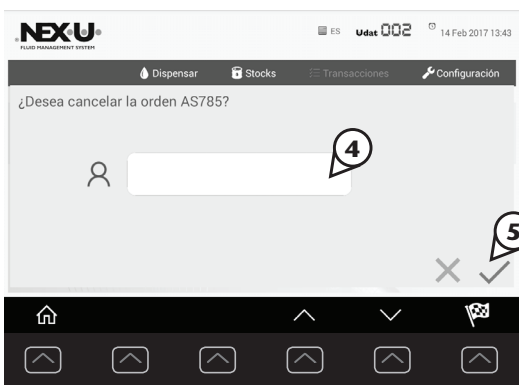

Fig. 19
Transactions in progress can be stopped by pressing the cancellation button (3). Then, the cancellation confirmation of the order will be displayed on the screen (Fig. 19). Enter the operator code (4) and press the confirmation button (5) to confirm the transaction cancellation. The emergency stop can only be used by the operator who has initiated the order or by the “manager” user.